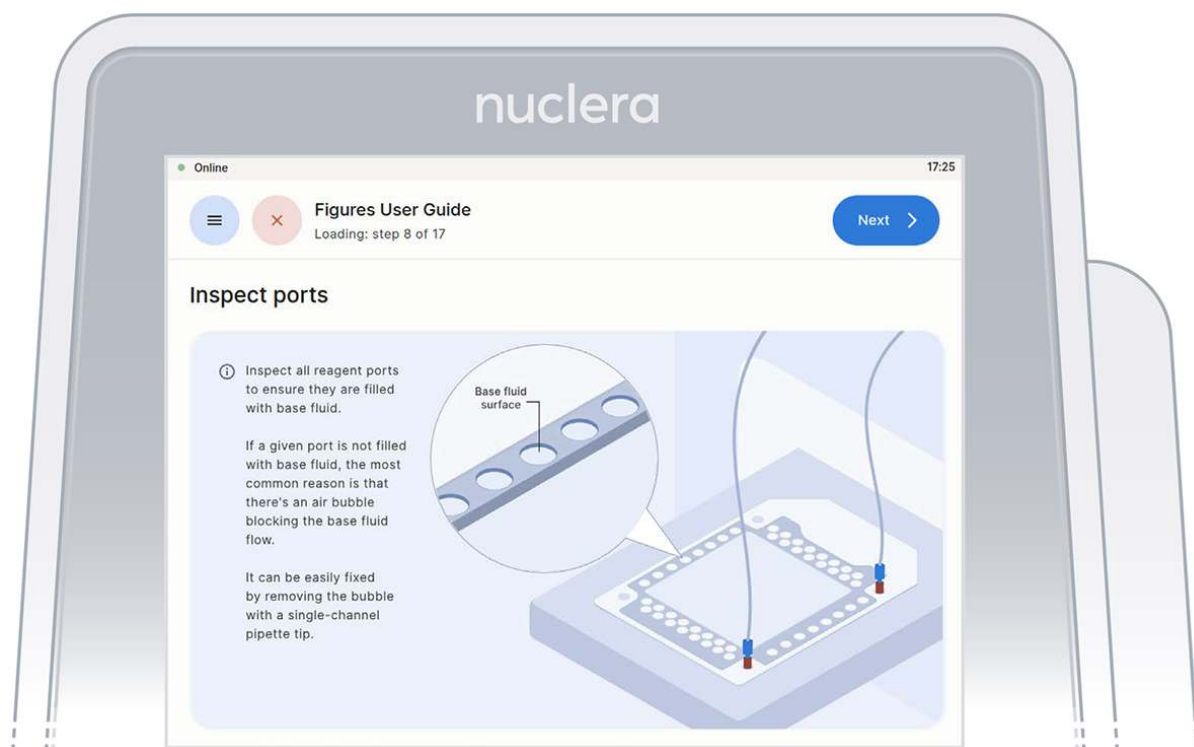

Figure 16: Confirm that all the ports on the cartridge are filled with base fluid
4. Inspect the ports on the cartridge after the priming with base fluid is complete. Ensure all the ports are filled and press the [Next] button (Figure 16).